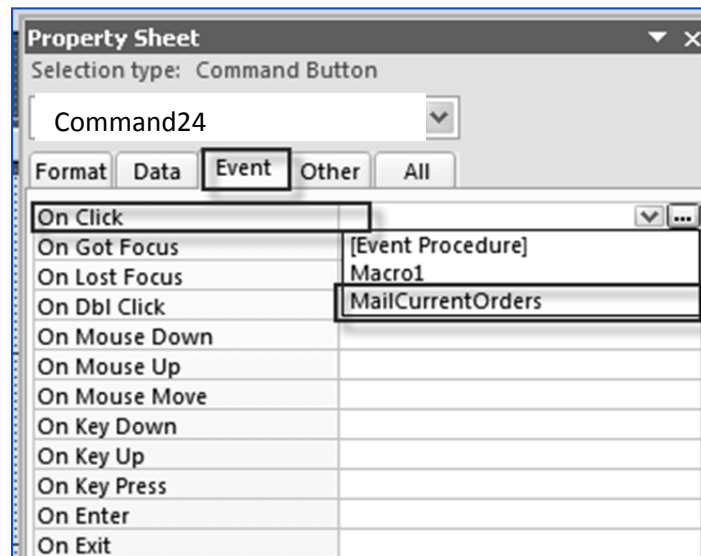

Fig. 4.2.15: Set the On Click event Property
6. In the *Event* tab of the *Property Sheet*, set the value of the *On Click* event. To do this, click  to open the list and select *MailCurrentOrders*, as shown in Fig. 4.2.15.